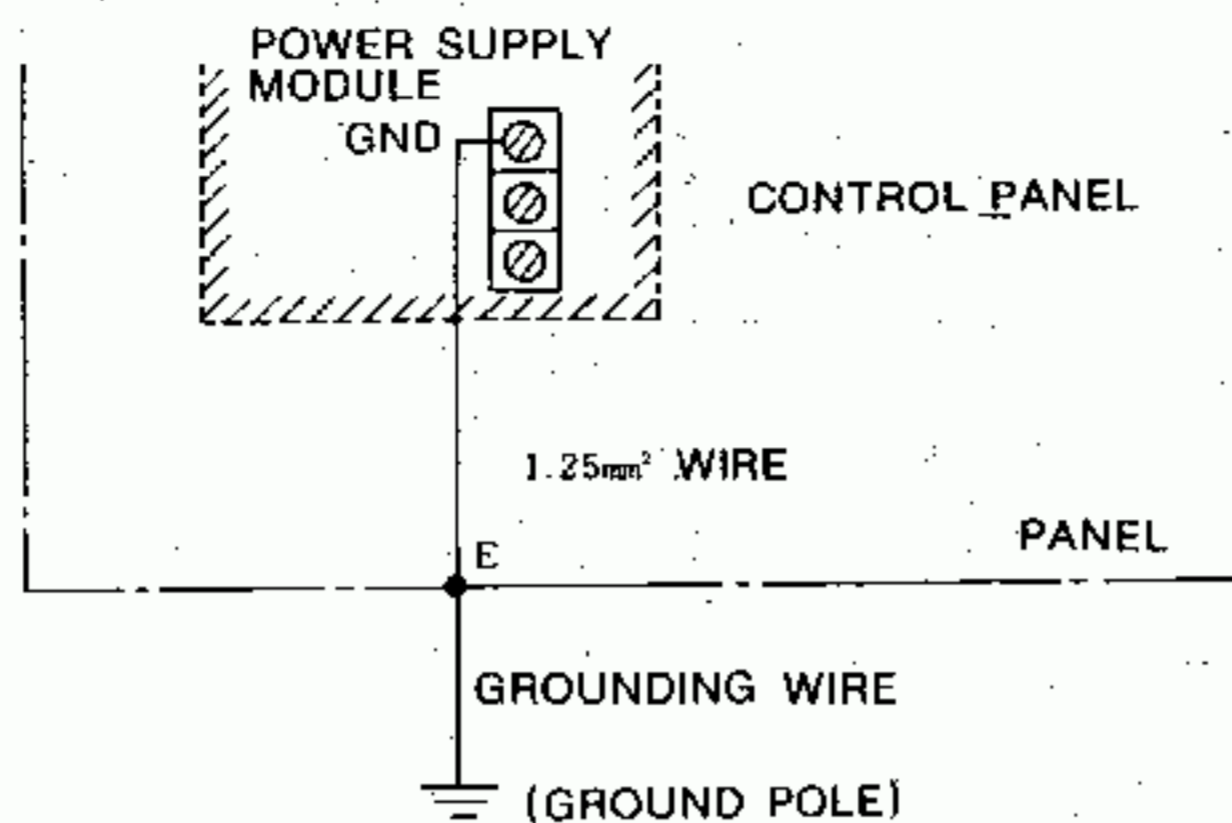

Fig. 6.3 Grounding Wire
- The GND terminal of the power supply module should be connected to the control panel housing, as shown in Fig. 6.3 at E, and connecting point E should be connected to a ground pole.